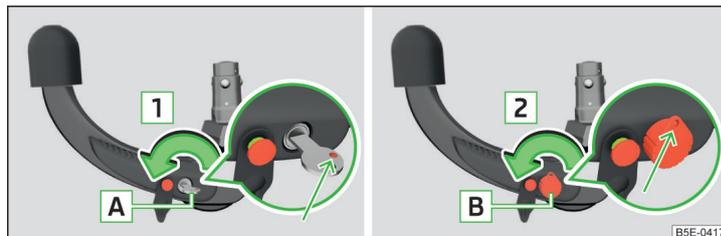

Fig. 288 Step 1: Key version 1/Key version 2
- › Turn key **A** in the direction of arrow **1** so that the red marking is pointing upwards » Fig. 288.
- › Turn the key in the direction of arrow **B 2** so that the conclusions release shows up » Fig. 288.